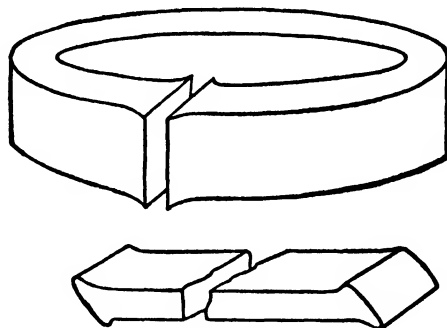

FIG. 38
9. Make welds with as few heats as possible as the difficulty of getting iron or steel to stick increases with the number of heats. Figs. 38 and 39.